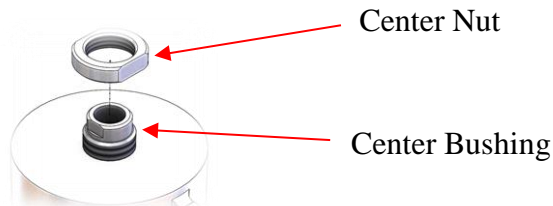

Figure 21: 2" Body Center Nut and Bushing
16. Once loose, unscrew the center nut from the center bushing if not already done so. Set aside the center nut. See Figure 21.